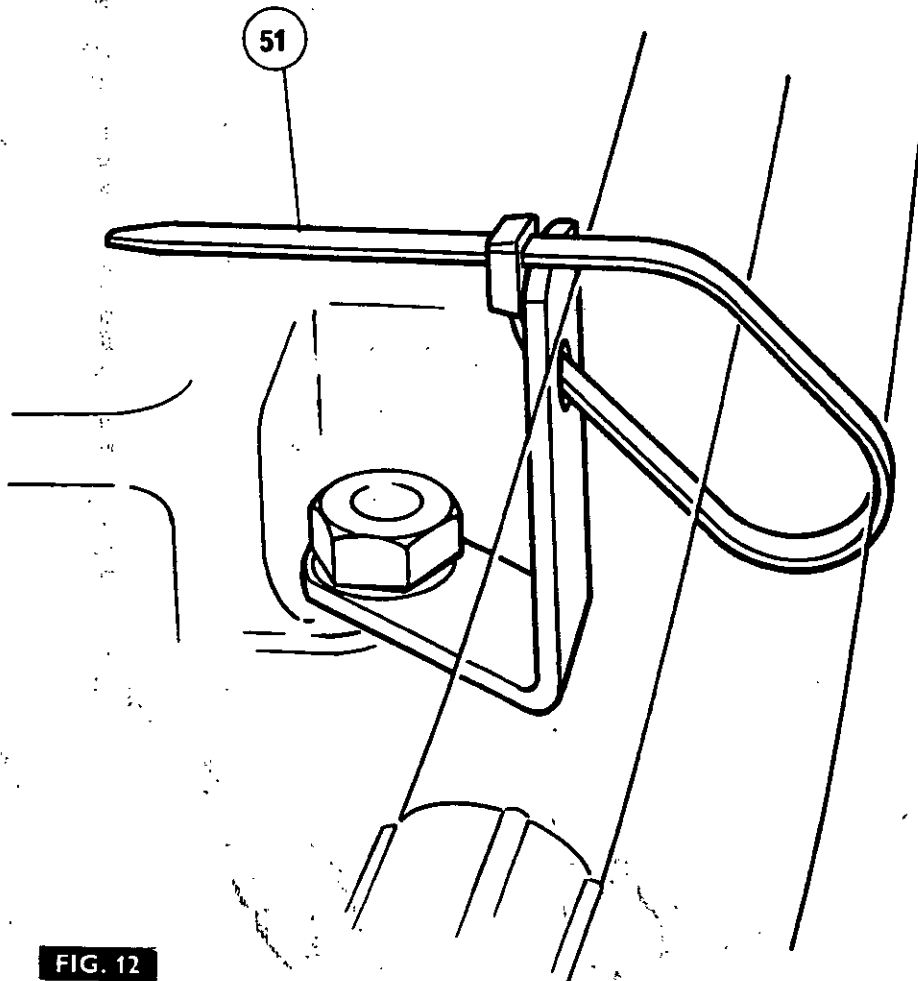

FIG. 12
13. Secure the hoses in pairs to the clamp bracket(s) (47), using the 'U' clamp(s) (49), plus a  $\frac{1}{4}$  UNF x 41 mm (1 $\frac{5}{8}$  in) bolt (50) and a  $\frac{1}{4}$  UNF locknut (tractors with spring suspension seat only).
**NOTE— IF NECESSARY, BEND THE BRACKET(S) (47) TO ENSURE A STRAIGHT HOSE RUN BETWEEN THE CLAMP(S) AND THE COUPLERS. ALSO, DO NOT CLAMP THE HOSES TIGHTLY, AS THEY MUST BE FREE TO SLIDE IN THE CLAMPS TO PERMIT COUPLING AND UNCOUPLING.**
- 13A. Fig. 12. De Luxe Seat Tractors Only:— Secure the hoses to the clamp bracket(s) with a plastic strap (51).